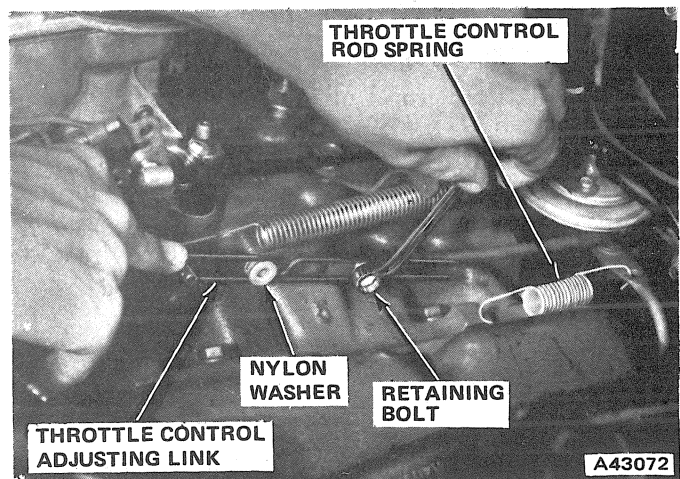

Fig. 2C-33 Tightening Link Retaining Bolt—Eight-Cylinder Engine
(1) Disconnect throttle control rod spring at carburetor.
(2) Raise vehicle.
(3) Use throttle control rod spring to hold transmission throttle valve control lever forward against stop.
(4) Block choke open and set carburetor throttle off fast idle cam.
(5) Loosen retaining bolt on throttle control rod adjusting link. Remove spring clip and move nylon washer to rear of link.
(6) Push on end of link to eliminate lash and tighten link retaining bolt (fig. 2C-33).
(7) Install nylon washer and spring clip (fig. 2C-34).
(8) Remove throttle control rod spring from linkage and install it on rod.
(9) Lower vehicle.